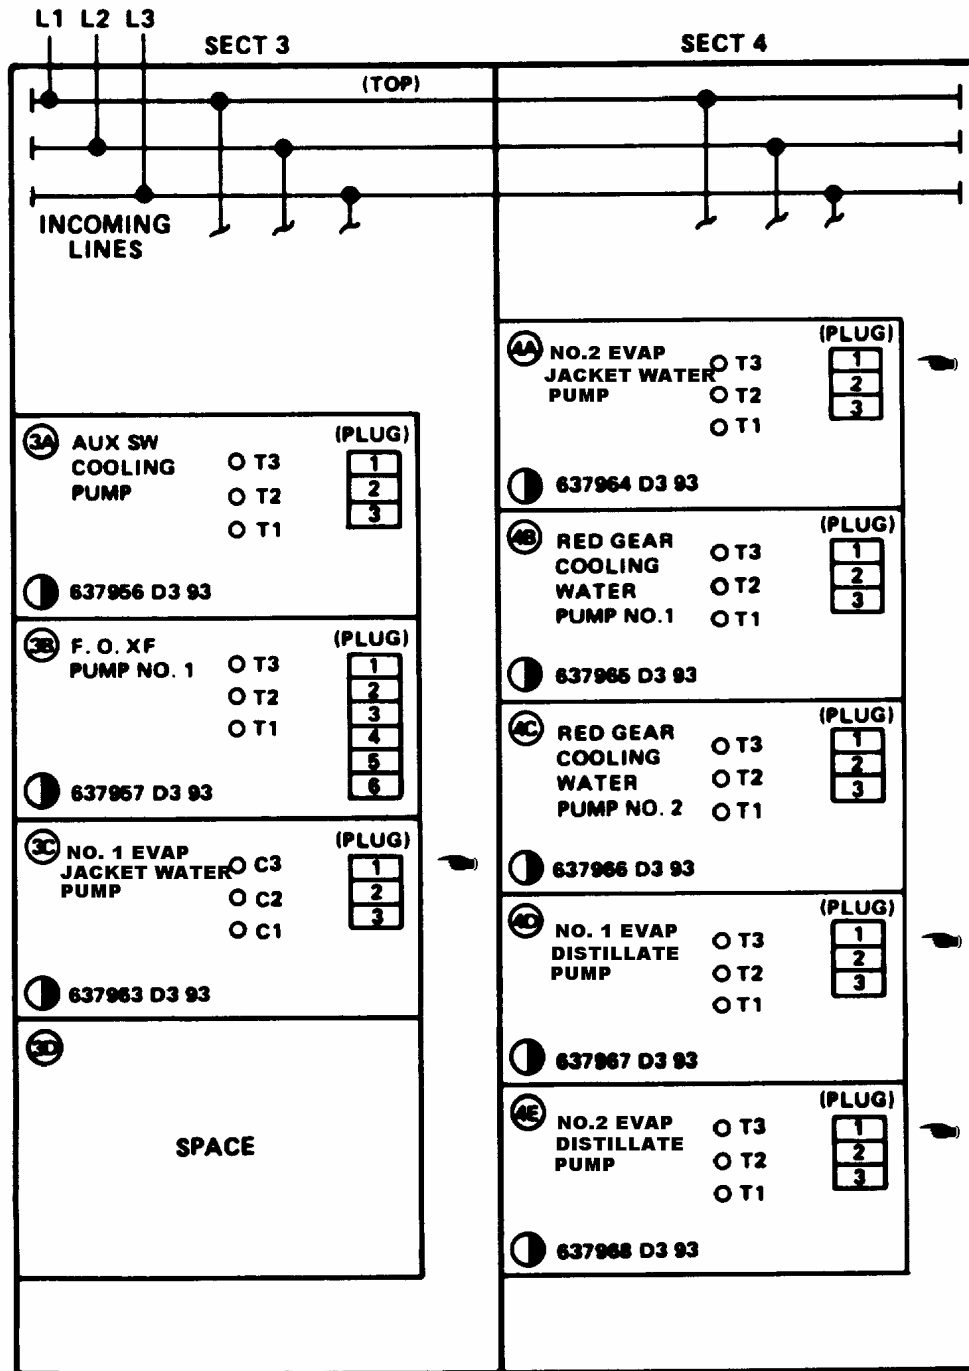

Figure 2-197. Motor Control Center. Auxiliary Machinery Room Vent No. 2.
- a. Install motor control center (3) on deck mounting pad with associated hardware.
- b. Connect incoming wiring (1) to controller bus bars and terminals.
- c. Install top cover panel (2) with associated hardware.
**2-233. Replace/Repair Motor Control Center, Auxiliary Machinery Vent Room No. 2. (FIGURE 2-197)**